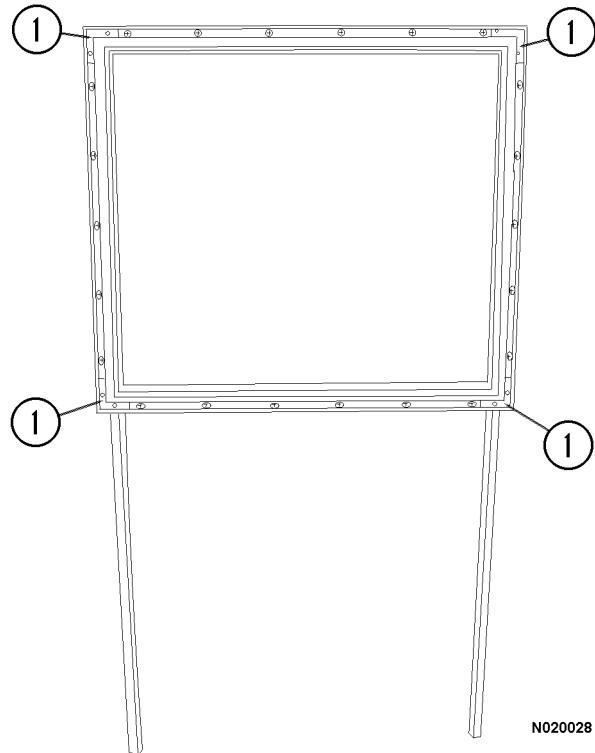

FIGURE 2-13.
8. Before installing the new window glass, first inspect the window frame. In each corner there is an L shaped bracket (Figure 2-13) with two screws in it to hold the corners of the frame together. Check L shaped brackets (1, Figure 2-13) to ensure they are tight. Also, ensure the rubber felt insert in the window channels is in good condition. Replace, if necessary.